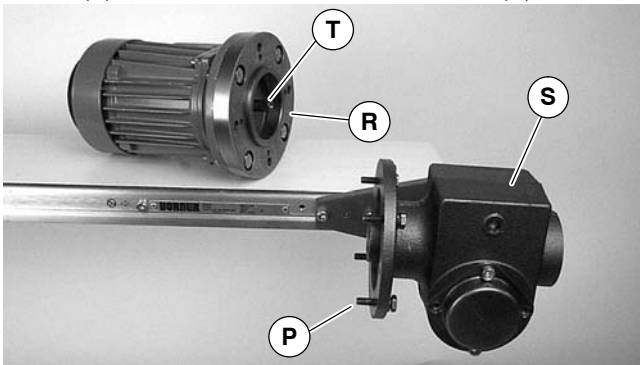

Figure 25
3. Remove four (4) screws (P of Figure 25). Detach motor with adapter flange (R) from gear reducer (S). Retain motor output shaft key (T).